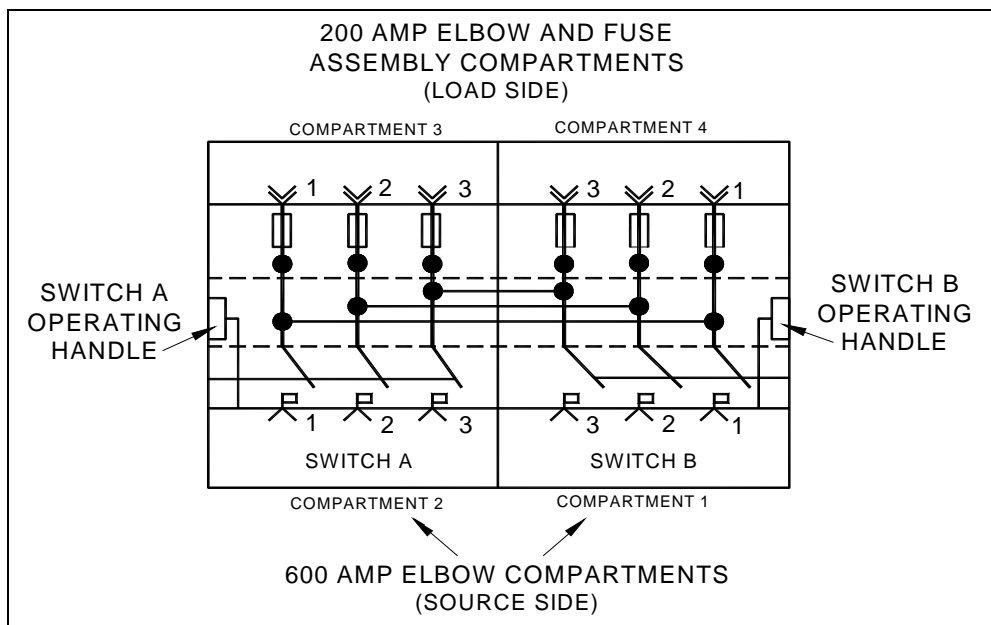

Figure 6 – Location of Switch A and Switch B Operating Handles on Manually Operated Switches
- 2.10.1 Manual control – See electrical configuration in figure 6.